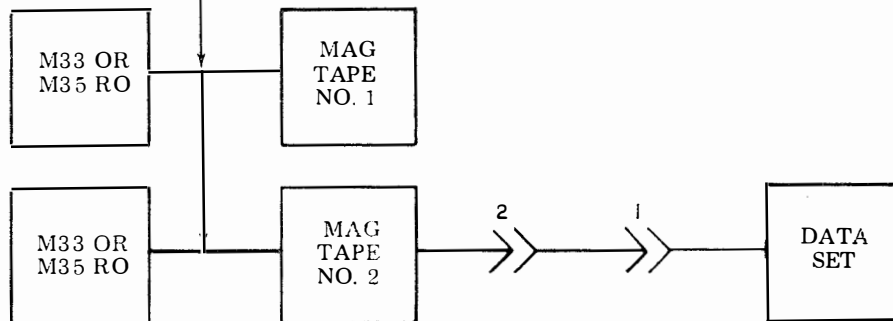

Figure 6 - Magnetic Tape and Model 33 or 35 RO Printer
1.20 With the 343762 jumper cable connected to switch assembly ports 5 and 7, two MT terminals share one data set (Figure 6). A Model 33 or 35 RO is connected directly to the local port of each MT.